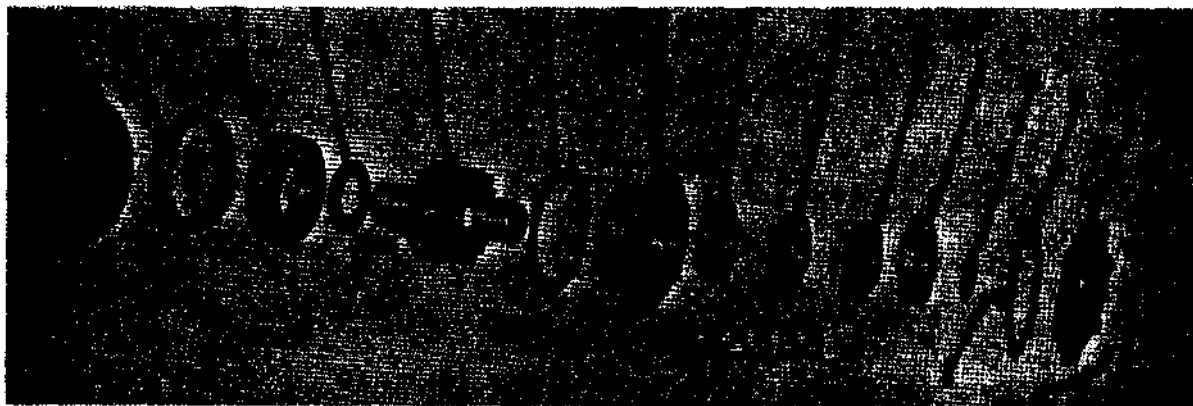

Figure 386. Helical drive pinion - exploded view
- (s) Using adapter 5120-795-0112, press helical pinion outer bearing cups (H and L) and cones (J and K) from helical pinion outer bearing cage (G). Refer to figure 386.
- (u) Remove key (T) and helical pinion bearing spacer (D) from helical drive pinion (E). Refer to figure 386.
- (v) Remove hypoid drive gear (A, fig. 386) from carrier assembly by applying a short pry bar between rear face of gear and carrier alternately on opposite sides of drive gear. Use suitable puller equipment to remove inner helical pinion bearing (C) from hypoid drive gear (A).